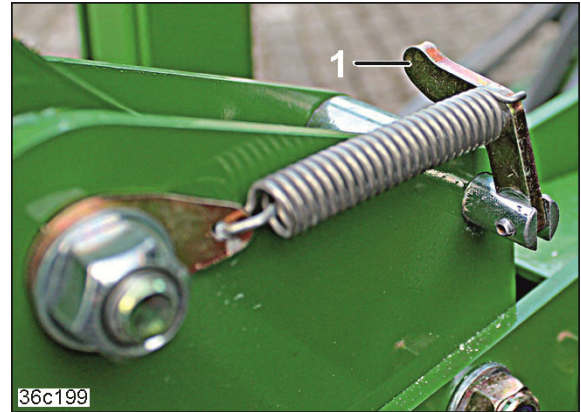

Fig. 196
3. Swivel the handle (Fig. 196/1) up.